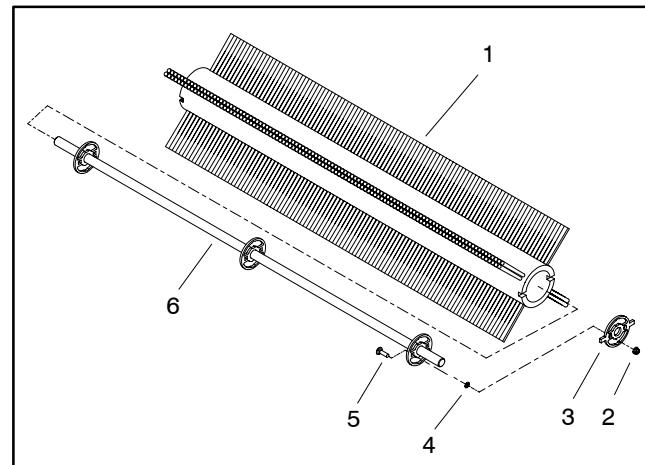

Figure 6
3. Remove carriage bolts (item 7), flat washers (item 16) and lock nuts (item 17) that secure bearing flanges to brush housing.
6. Loosen set screws (item 14) that secure coupling jaw to brush shaft. Slide coupling jaw from brush. Locate and retrieve square key from brush shaft.
8. Disassemble brush using Figure 6 as a guide.
1. Assemble brush using Figure 6 as a guide.
6. Secure bearing flanges to brush housing with carriage bolts (item 7), flat washers (item 16) and lock nuts (item 17). Center brush in brush housing.